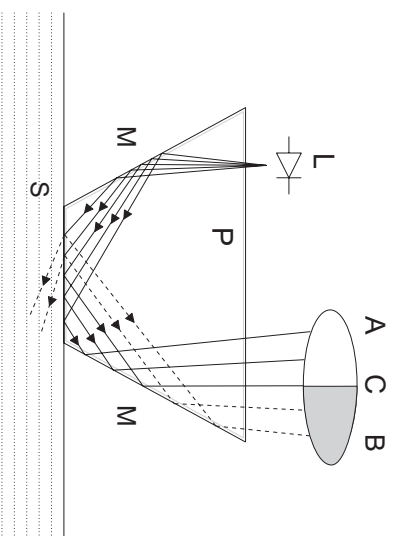

Figure 1.2 Refractometer principle
The K-Patents inline refractometer sensor determines the refractive index n_o of the process solution. It measures the critical angle of refraction using a yellow LED light source with the same wavelength (589 nm) as the sodium D line (hence n_o). Light from the light source (L) in Figure 1.2 is directed to the interface between the prism (P) and the process medium (S). Two of the prism surfaces (M) act as mirrors bending the light rays so that they meet the interface at different angles.